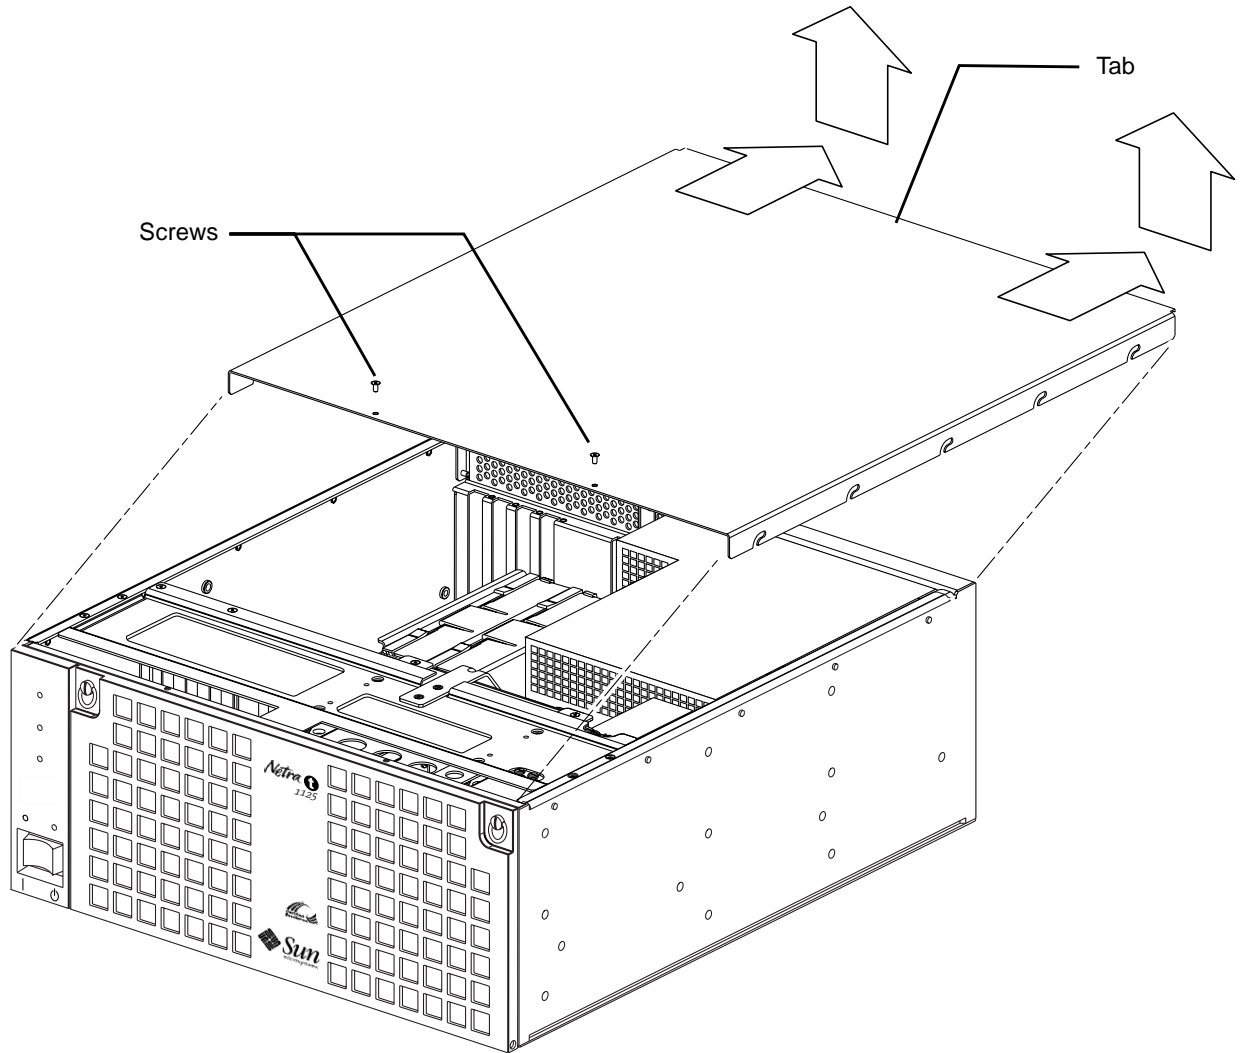

FIGURE 1-9 Removing the Top Access Cover
4. Remove the rack fixing screws and withdraw the unit on its slides (if fitted). Refer to FIGURE 1-9 on page 1-11.